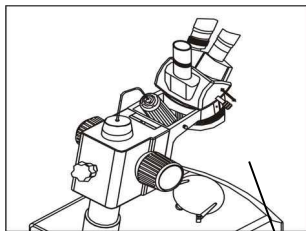

Fig. 8
- 2) Connect the PK mount adapter with the photo eyepiece, and then tighten the lock screw (Fig. 8)